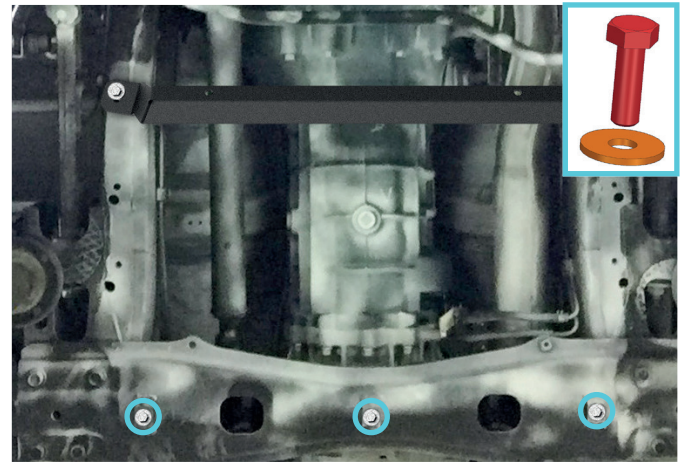

Fig. 4
4. Loosely insert supplied bolts M8x1.25x25 with washers M8 (items A,B) as shown in fig. 4.